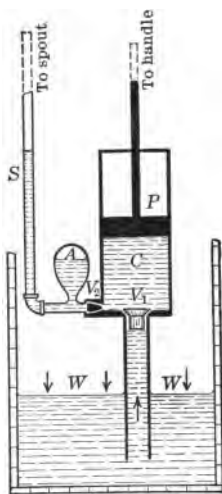

FIG. 58. — Force pump (for deep wells).
65. The Force Pump. The force pump differs from the lift pump in two respects: (1) The piston is solid; (2) valve V_2 is not in the piston, but at the entrance to the outlet pipe near the bottom of the cylinder. See Fig. 58. The upward stroke of the piston produces a vacuum exactly as with the lift pump. During the downstroke valve V_1 closes and the water is forced into the outlet pipe S . Valve V_2 keeps it from flowing back into the cylinder during the next upstroke of the piston.